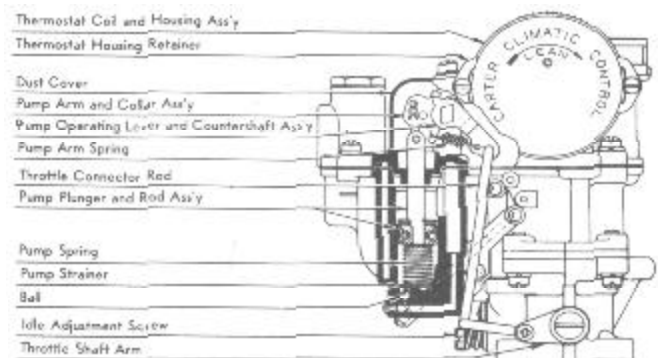

Figure 5--Carburetor Duplex
1. Remove dust cover (Figure 5)